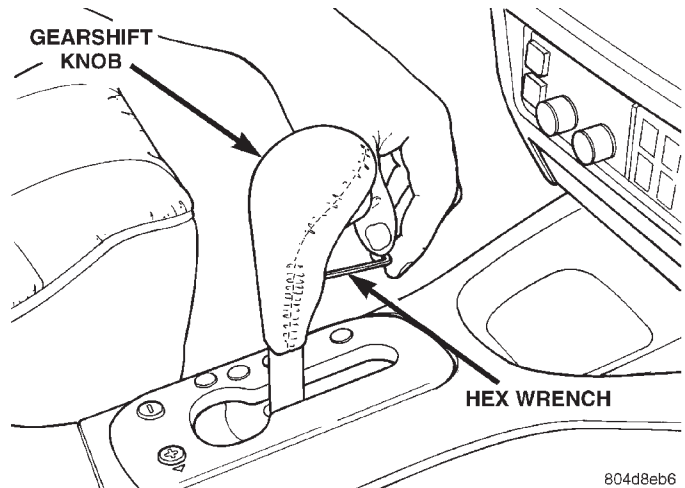

Fig. 25 Shift Handle Retaining Screw
- (1) Remove shift handle (Fig. 25).